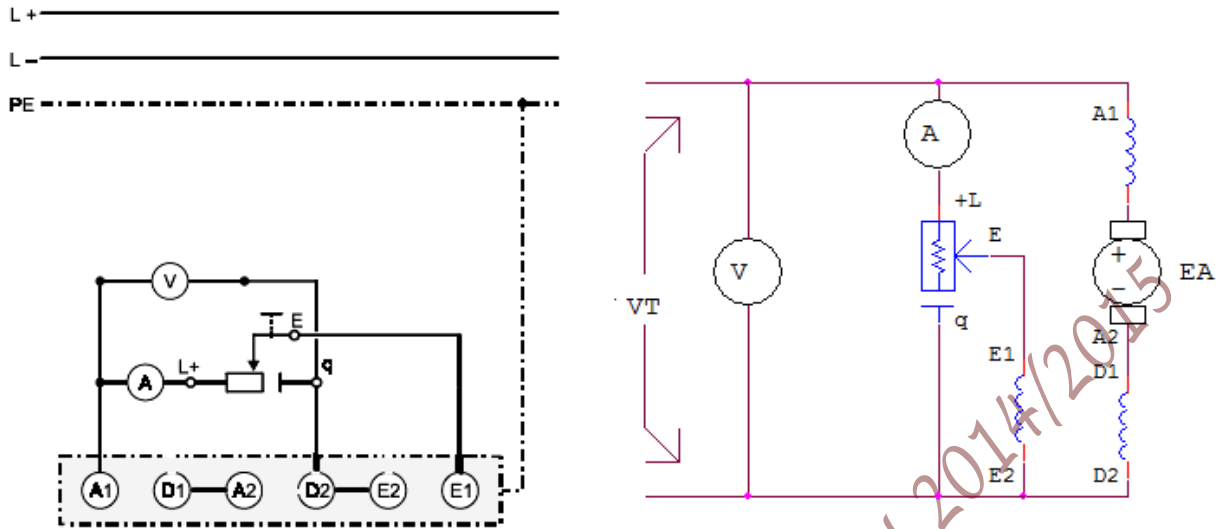

Figure 10.7: Circuit for the compound-wound machine as a generator
1. Set up the circuit as shown in Figure 10.7
27. Connect the Resistive load (732 40) connected in parallel to the output of the generator (between terminals  $E_2$  and  $A_1$ ) refer to Figure 10.7 and set the Resistive load to 100% value, add an ammeter with the Resistive load to measure the load current